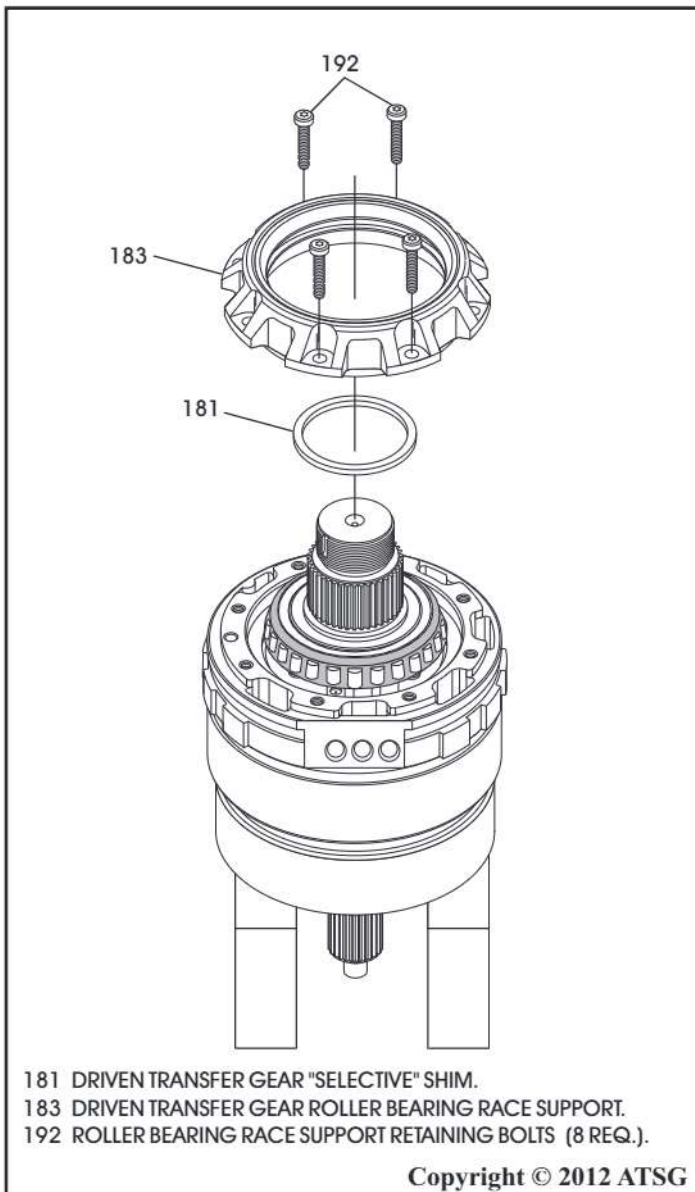

Figure 128
5. Turn the assembly over again and remove the 4 remaining roller bearing race support retaining bolts, as shown in Figure 128.
6. Remove the roller bearing race support and the transfer gear selective shim, as shown in Figure 128.